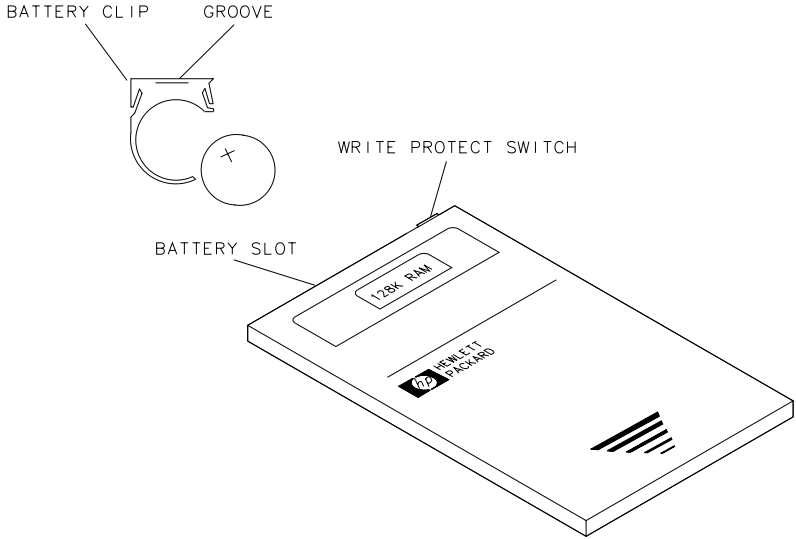

Figure 3 Memory Card Battery Replacement
- 1 Locate the groove along the edge of the battery clip. See Figure 3.
- 4 Insert the battery clip into the memory card, holding the clip as oriented in Figure 3. (Face the "open" edge of the clip toward the write-protect switch on the memory card.)